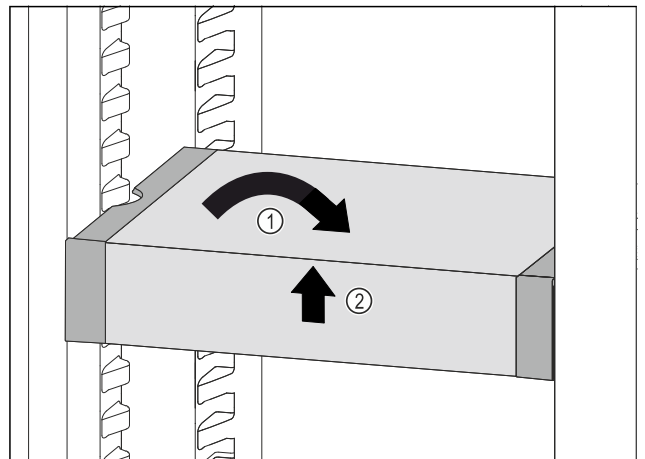

Fig. 116
- ▶ Set VarioSafe straight. Fig. 116 (1)
- ▶ Lift VarioSafe at the front. Fig. 116 (2)